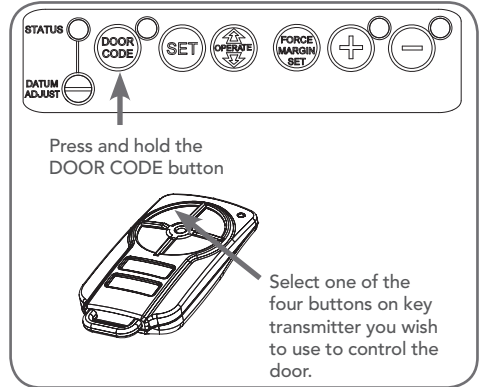

Fig. 8.1
- Press and hold the DOOR CODE button. The DOOR CODE LED will illuminate and beep to indicate the opener is in Code Learn mode. **(Fig. 8.1)**
- Press and hold the transmitter button that you want to control the door for two (2) seconds, pause for two (2) seconds, then press the same button again for two (2) seconds and release.